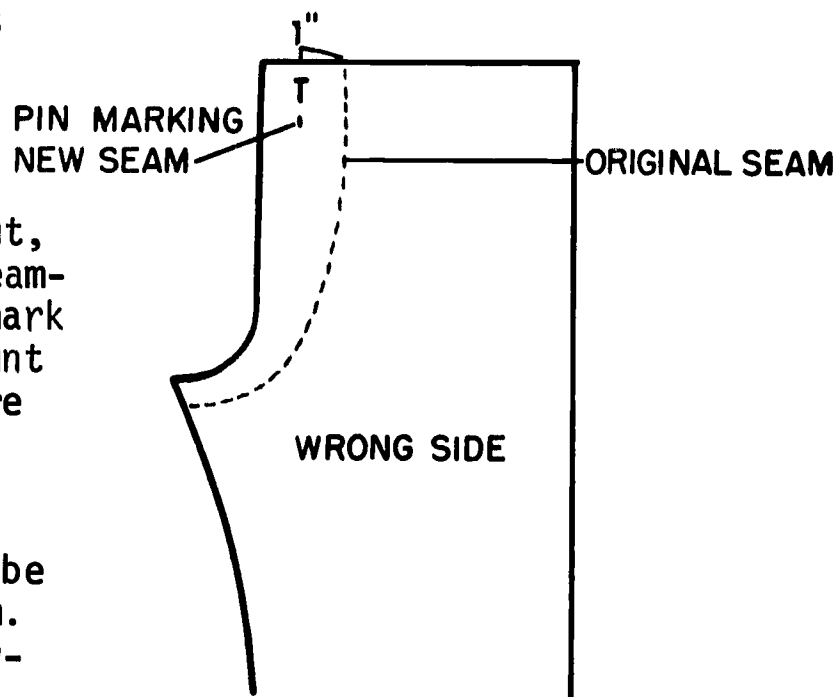

Figure 57.
4. With the trousers wrong side out, mark the location of the new seamline. To determine where the mark will be placed, divide the amount to be let out by two and measure this distance from the original seamline. For example, if the trousers need to be let out two inches, the new seamline would be one inch from the original seam. One inch out of each seam allowance would give the necessary two inches (see Figure 57).